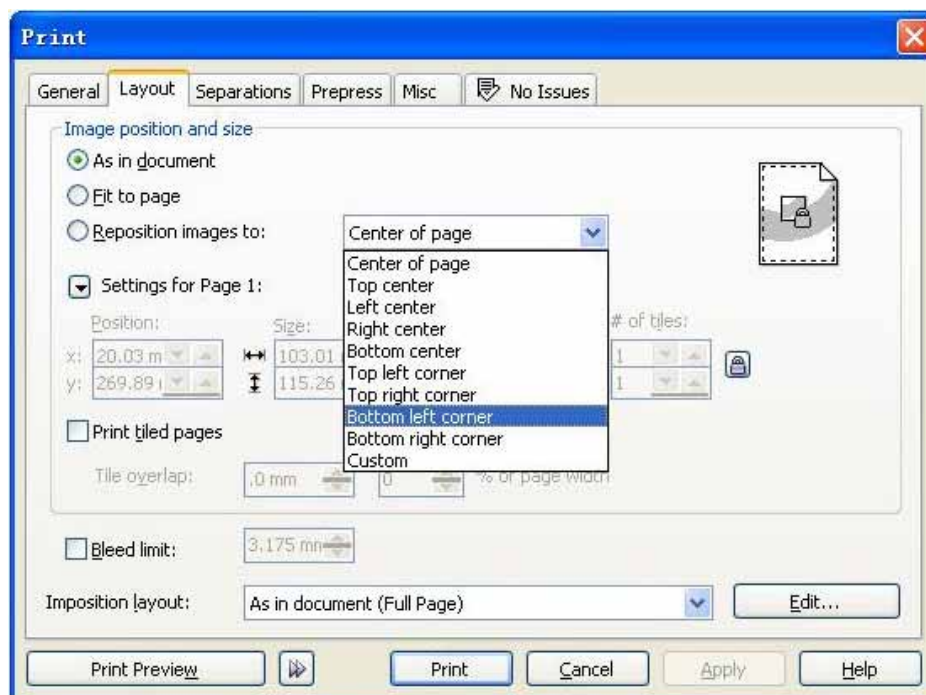
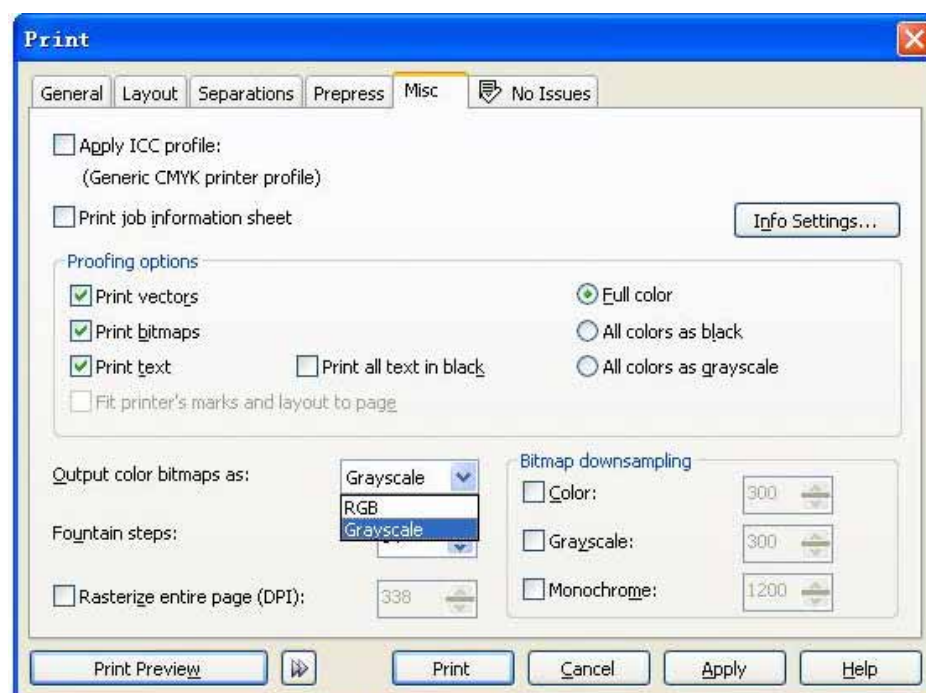

Figure 12
Figure 13
**Step 8:** Select Bottom left corner on Figure 12. The **OUTPUT COLOR BITMAPS AS** option in Figure 13 is **RGB** but **NOT** Grayscale. **Other selection shall be the same as figure 13, otherwise it will fail to output.**